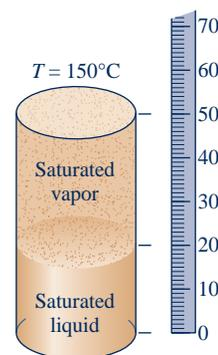

Fig. P3.21
- 3.21** As shown in Fig. P3.21, a closed, rigid cylinder contains different volumes of saturated liquid water and saturated water vapor at a temperature of 150°C . Determine the quality of the mixture, expressed as a percent.